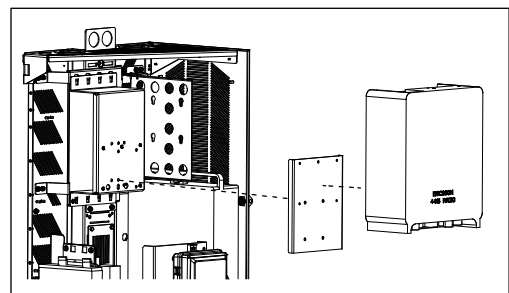

Figure 19 Attach Large Radio
3. Mount the radio/plate assembly in the SHRD60 using the hardware removed previously (Figure 19).